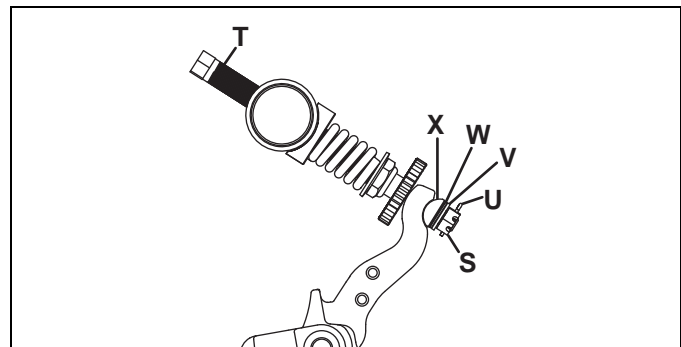

Figure 4P
1. Remove cotter pin **(U)**, slotted nut **(S)**, belleville washer **(V)**, shim washer **(W-if required)**, and half trunnion **(X)**. See Figure 4P